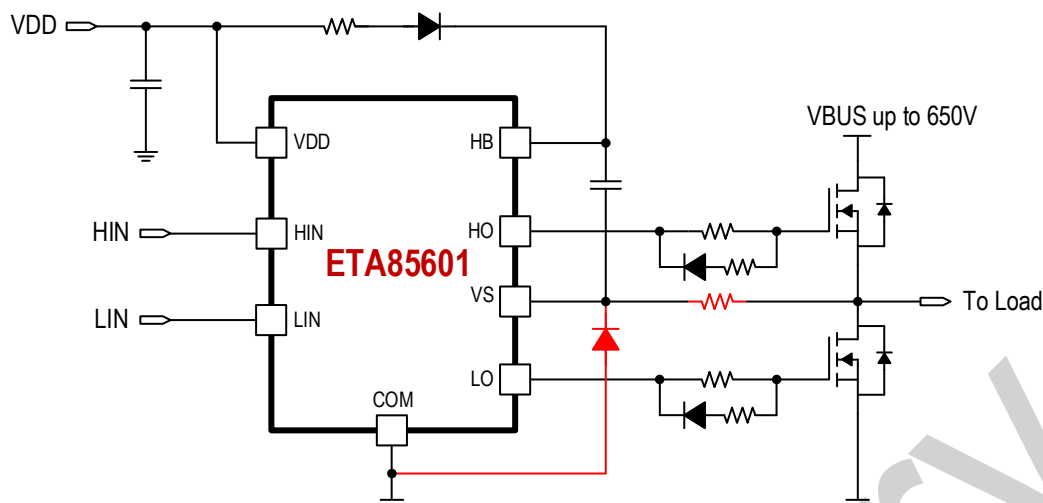

Figure 11. Use of combination of VS resistor and VS diode to limit the negative voltage spike of VS pin
- Add a small resistor (2-5 Ω typically) in series to the VS line. The series resistor has the positive effect of limiting the voltage spike on the HB pin, thanks to the filtering effect of such resistor coupled with the bootstrap capacitor. Note that, in order to obtain an effective filtering effect, the resistor must be placed between the minus terminal of bootstrap capacitor and the output of the power stage, as indicated in Figure 11.
Routing and Placement: Power stage PCB parasitic elements can contribute to large negative voltage transients at the switch node; it is recommended to limit the phase voltage negative transients. In order to avoid such conditions, it is recommended to 1) minimize the high-side emitter to low-side collector distance, and 2) minimize the low-side emitter to negative bus rail stray inductance. However, where negative VS spikes remain excessive, further steps may be taken to reduce the spike. This includes placing a resistor (5 Ω or less) between the VS pin and the switch node (see Figure 11), and in some cases using a clamping diode between COM and VS.